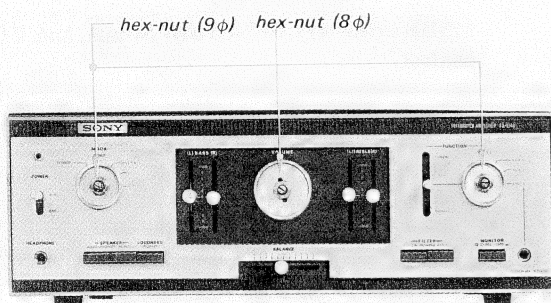

Fig. 2-2 Hex-nut removal
3. Remove the three ornamental rings by loosening the hex-nuts securing them to the front panel as shown in Fig. 2-2.